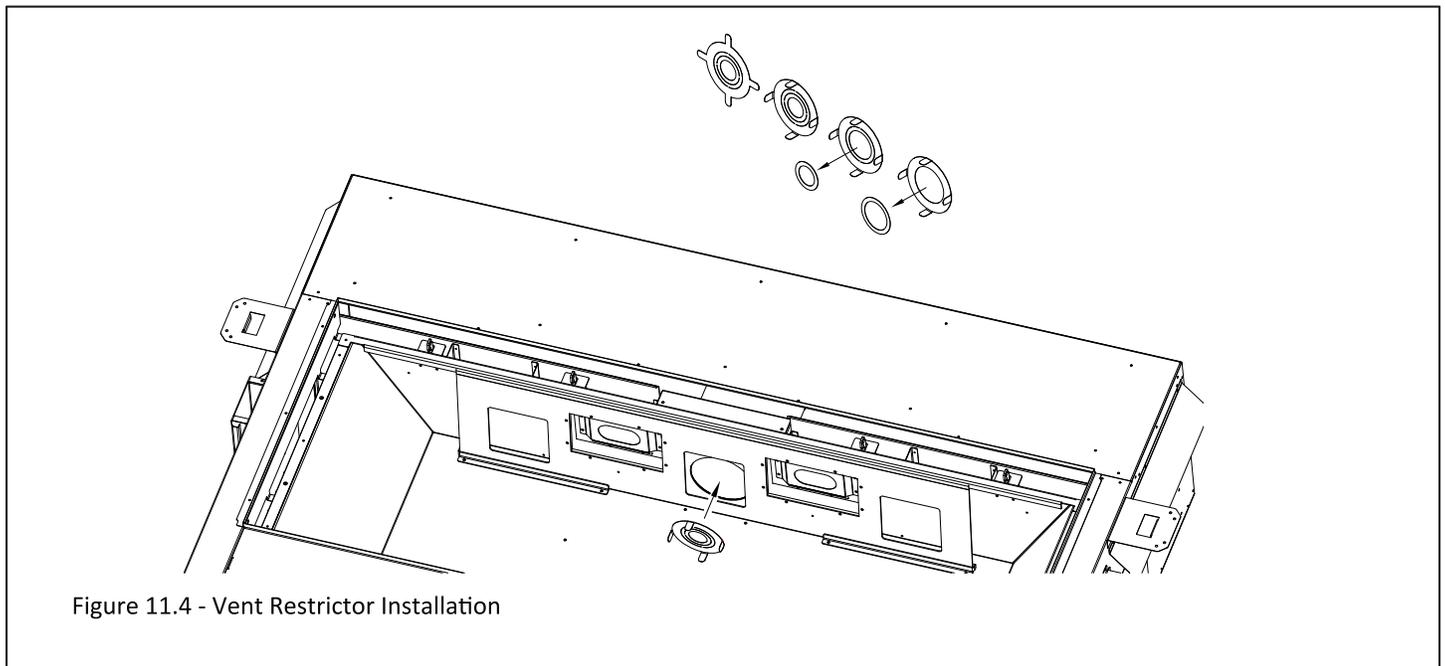

Figure 11.4 - Vent Restrictor Installation
Vertical terminations may display an active, compact flame. If this appearance is not desirable, a restrictor plate may need to be installed or modified after vent termination installation. Access to the vent exit for restriction can be reached through the fireplace baffle. See Figure 11.4
3. Insert restrictor plate into the 5” (127mm) exhaust pipe with the tabs pointing towards you. See Figure 11.4.
2. Remove the restrictor plate from the 5” (127mm) exhaust pipe by pulling the restrictor plate down and out. See Figure 11.4.